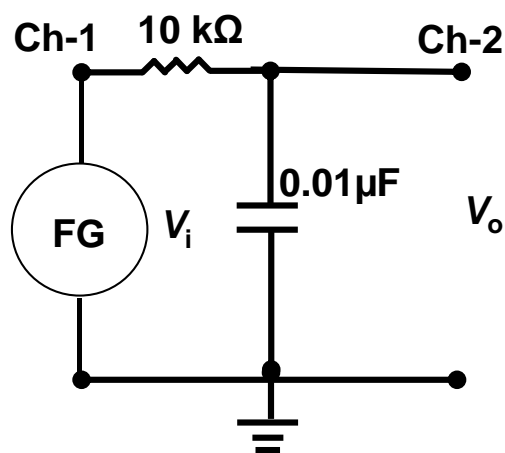

Fig. 13
1. Connect up the circuit in Figure 13 (this is also called an RC low pass filter).
2. Set up the CRO to display on both channels (I and II) and connect the points indicated in Figure 13 to the respective channels.